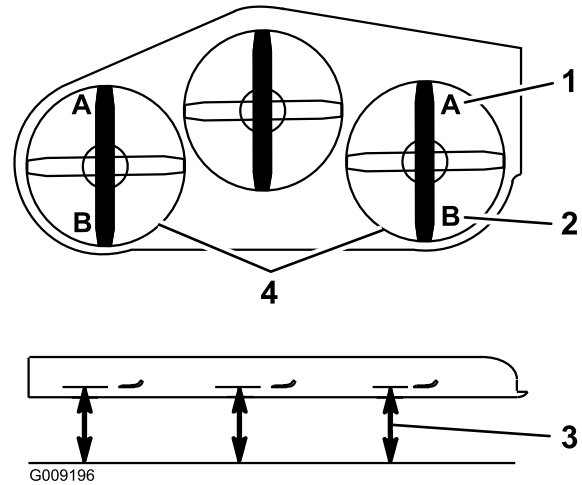

Figure 72
9. On both sides of the deck, measure from the level surface to the front tip of the blade (Position A). The measurement should read 3 inches (7.6 mm) (Figure 72).
- On both sides of the deck, measure from the level surface to the back tip of the blade (Position B). The measurement should read 3 1/4 inches (8.3 cm) (Figure 72).